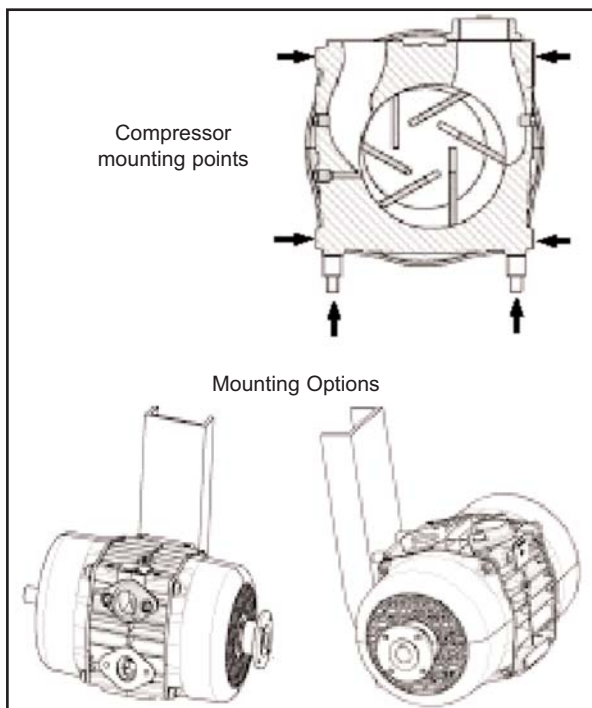

Figure 1 - Mounting
1. The E-106 compressor has mounting points on both sides of the body, as well as the base. The compressor can be mounted using the studs and spacers provided. See Figure 1. In addition to the standard mounting bracket, Blackmer can supply brackets to suit existing installations currently using other makes of compressors.